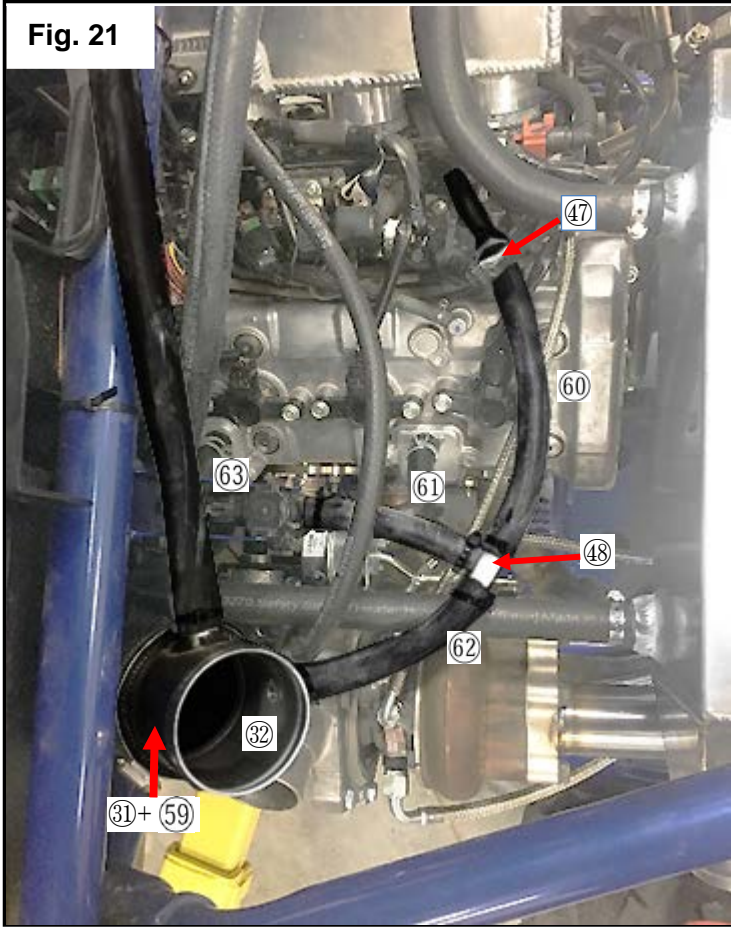

Fig. 21
- 28** Remove the OE radiator cap from the vehicle radiator in the front and reinstall it to the top of the Cooling Surge Tank ⑩. Install Radiator Cap ⑬ in place of the original cap.
- 29** Install ½" To 3/8" Hose Adaptor ④⑦ to the small end of the idle air control hose from step 16. Install the 8" long ½" rubber hose ⑥⑩ onto the ½" side of the ½" To 3/8" Hose Adaptor ④⑦. Install the 4" long ½" rubber hose ⑥① to the air injection valve on the LH side of the engine bay. Fit the T-fitting into the end of the 8" long ½" Rubber Hose ⑥⑩ and 4" long ½" rubber hose ⑥①. Install the 5" long ½" rubber hose ⑥② onto the remaining port on the T-fitting ④⑧. Install short end of the Silicone Bend 3" 135deg ③① onto the intake of the turbo. See Fig. 21.
- 30** Install the Aluminum Air Hose 3" ③② to the top of Silicone Bend 3" ID 135 deg ③① with the larger barb pointed across the vehicle to the passenger side and the smaller barb pointed downwards. Secure both ends of ③① with Hose Clamp 65-89mm ⑤⑨. Connect the remaining end of the 5" hose to the smaller ½" barb. Install the ¾" rubber hose ⑥③ onto the larger barb on Aluminum Air Hose 3" ③②. Install and tighten zip ties for all air hose connections. See Fig. 21.